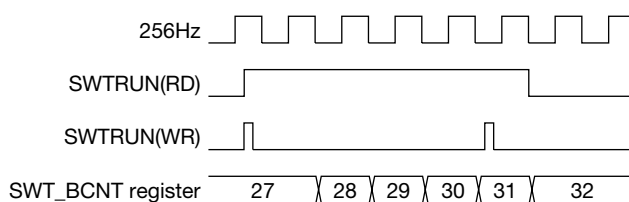

Figure 16.8.1: Run/Stop control timing chart
- The stopwatch timer switches to Run/Stop mode when data is written to SWTRUN (D0/SWT\_CTL register) synchronized with the 256 Hz signal falling edge. When 0 is written to SWTRUN, the timer switches to Stop state after counting an additional “+1.” 1 is retained for SWTRUN reading until the timer actually stops. Figure 16.8.1 shows the Run/Stop control timing chart.